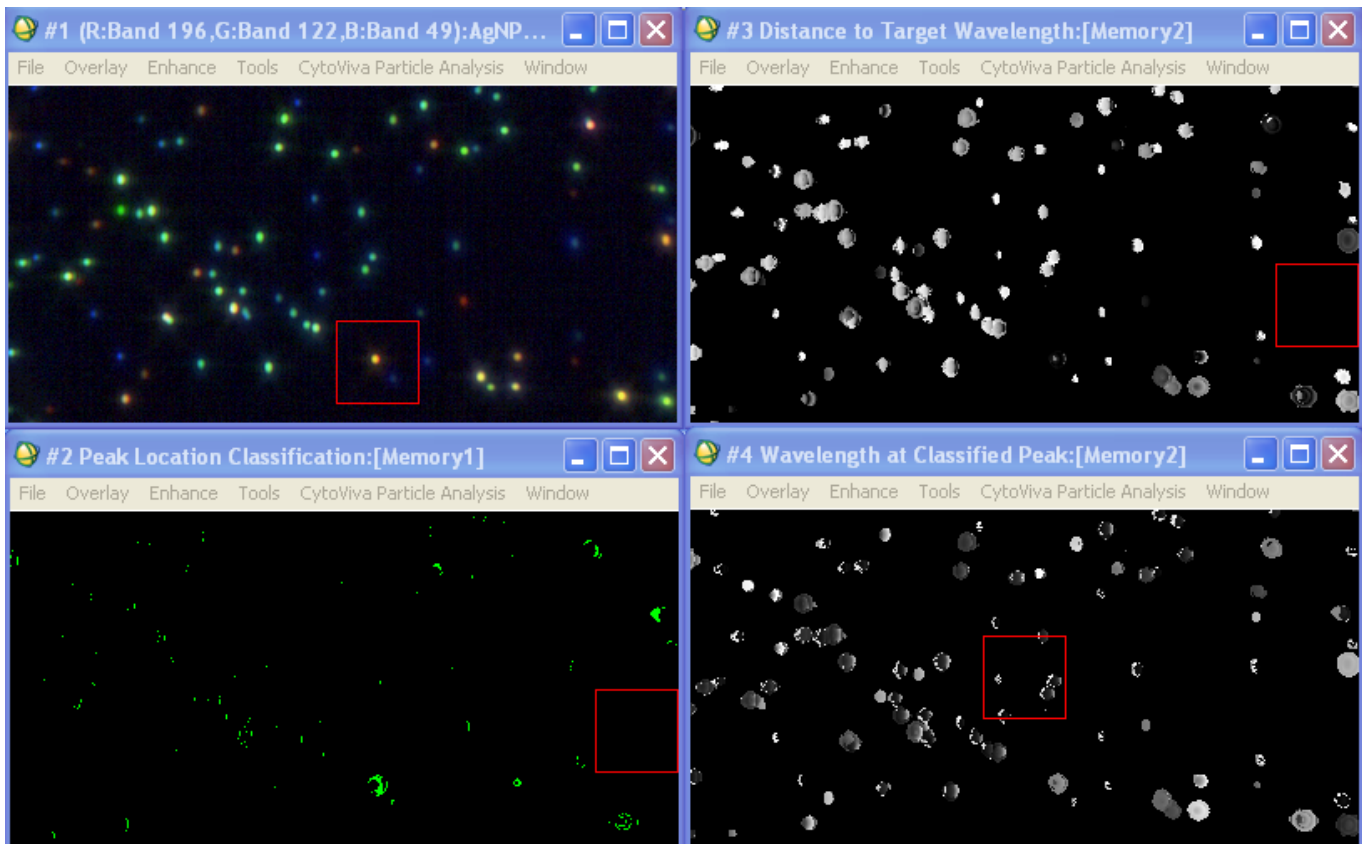

Figure 12d. (Clockwise from upper left) AgNP datacube, Distance to Target Wavelength, Wavelength at Classified Peak, Classification Image
- Select OK and the results of the Peak Classifier open (Figure 12d).